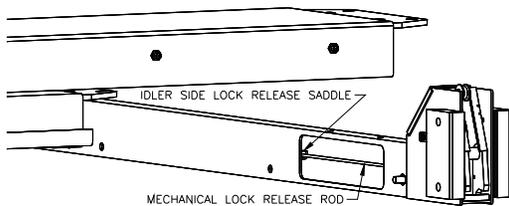

Fig 9 – Mechanical Lock Rod
- 12) Remove the four (4) cross beam sheaves (one sheave from each end). The runway sheave pins do not need to be removed.
13) Place the mechanical lock release rod into the saddle on the idler side of the cross beam, **Fig 9**.